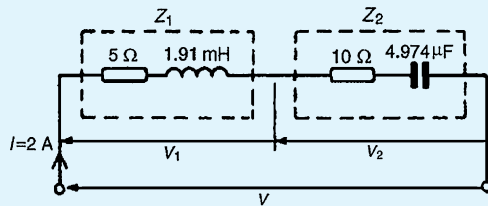

Figure 15.20
4. For the circuit shown in Fig. 15.20 determine the voltages  $V_1$  and  $V_2$  if the supply frequency is 1 kHz. Draw the phasor diagram and hence determine the supply voltage  $V$  and the circuit phase angle.